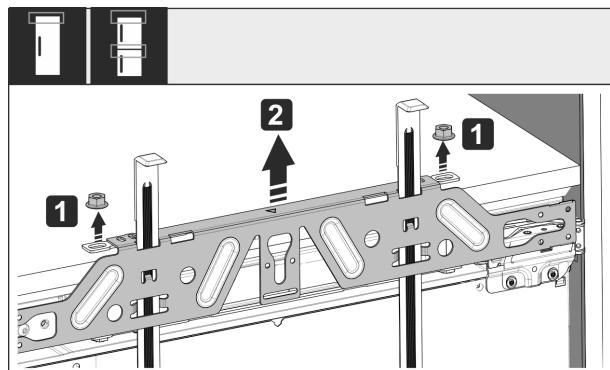

Fig. 54
- ▶ Loosen locknuts Fig. 54 (1).
- ▶ Remove crosspiece Fig. 54 (2).